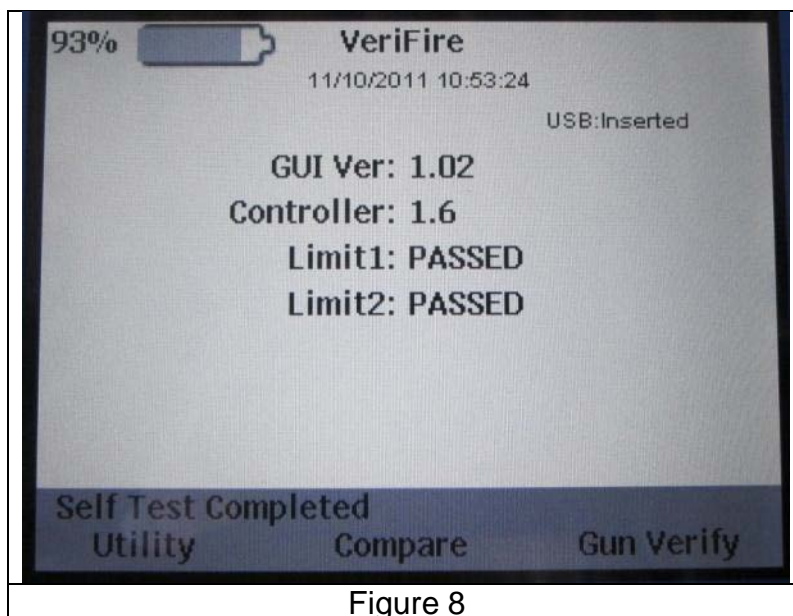
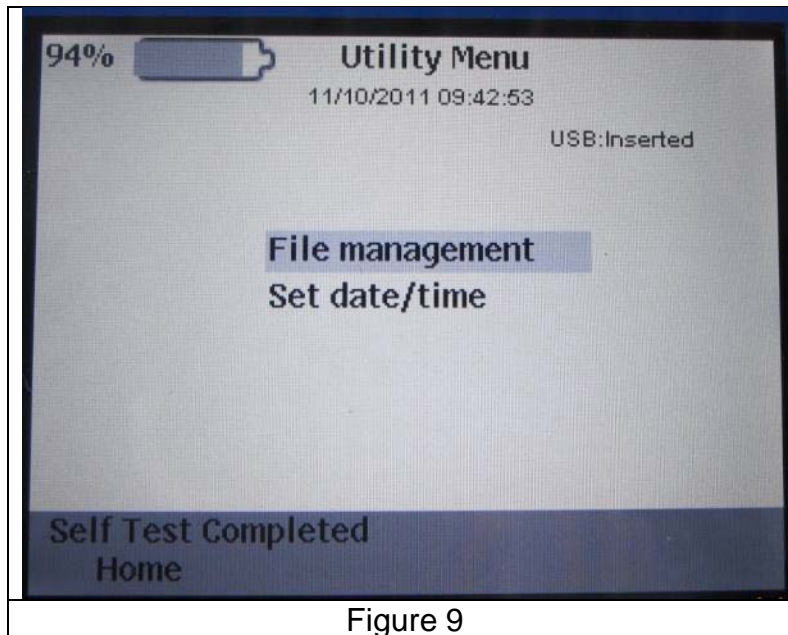
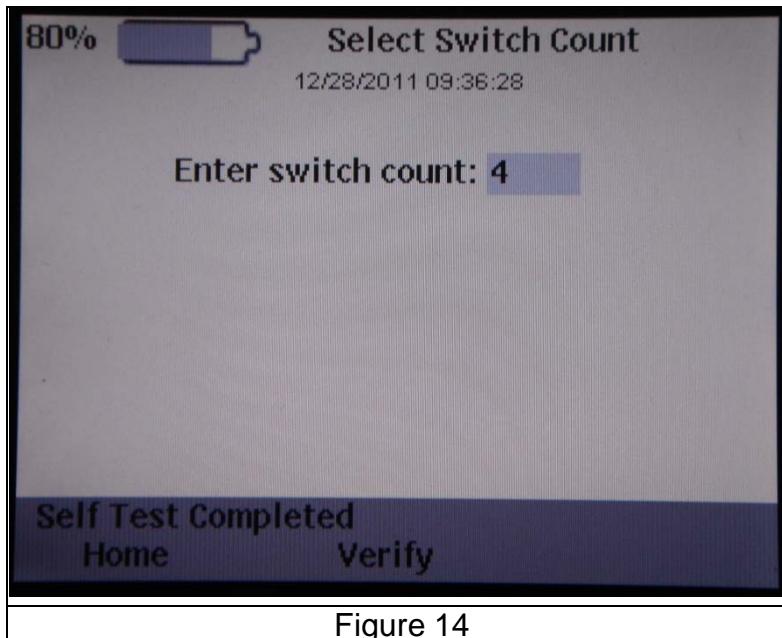

Figure 8
Figure 9
Figure 14
4. After disconnecting the battery charger, the VeriFire® Panel goes through a self-check and displays the VeriFire home screen shown in Figure 8 below. A full description of the VeriFire home screen is given in Section 3.2.
The VeriFire® Panel is turned on by momentarily depressing the RED Power button. It takes about 15 seconds for the unit to boot up and present the VeriFire home screen shown in Figure 8.
The Utility menu is selected from the VeriFire home screen in Figure 8, and transfers focus to the Utility Menu screen shown in Figure 9.
2. Use the Up/Down arrow keys to highlight the File Management utility shown in Figure 9. Once highlighted the Select key (center of arrow keys) activates the function. Up, down and select keys are shown in Figure 10.
1. Use the Up/Down arrow keys to highlight the Set Date/Time utility, shown in Figure 9. Once highlighted touch the Select key (center of arrow keys), to activate the function. The Date and Time Entry screen appears.
2. Gun Verify is selected from the VeriFire home screen shown in Figure 8, and results in the Enter Switch Count screen shown in Figure 14.
3. Compare is selected from the VeriFire home screen shown in Figure 8 and results in the Select File or Directory screen shown in Figure 19. Use the Up/Down arrow keys to highlight the desired folder and the select key to select the desired folder. Again use the Up/Down arrow keys to highlight the desired file in the folder. Now use the Open soft key to open the file.
An example of a proper start is shown in Figure 8.